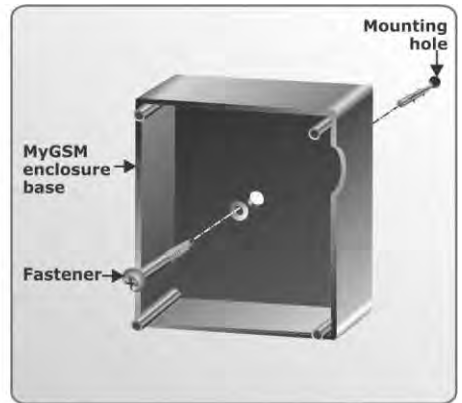

FIGURE 6.
5. Mount the unit using suitable fasteners as shown in Figure 6.